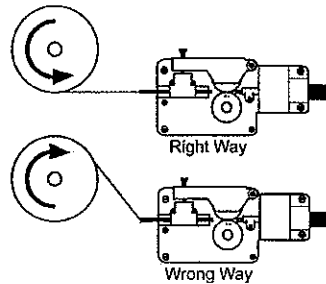

Figure 4. Proper Wire Installation
4. Place the spool on the spindle in such a manner that when the wire comes off the spool, it will look like the top illustration in Figure 4.